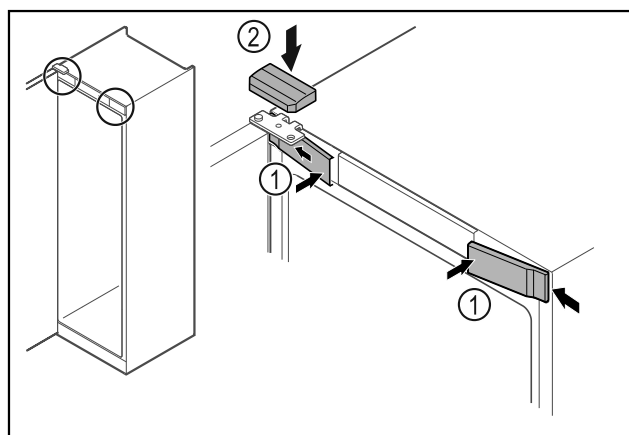

Fig. 51 *
- Hook in the front covers Fig. 51 (1) on the side and snap them into place.*
- Snap on the top cover Fig. 51 (2) from above.*